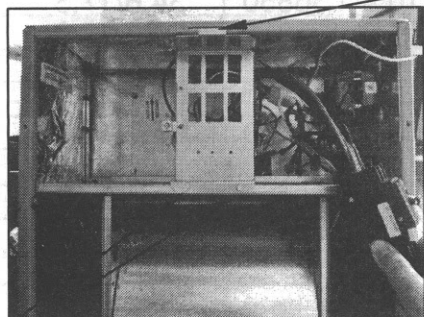

FIGURE 3
- 7.) Locate locking tab at the top edge of the breaker/pull disconnect mounting plate. (See fig. 3)
- 8.) Slip tab into slot of cabinet located along the front edge of the discharge panel. (See fig. 3)
- 9.) Secure breaker/pull disconnect mounting plate with two screws along the bottom of the plate. (See fig. 3)